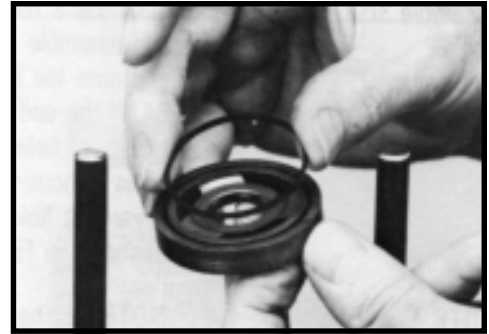

Figure 59
19. Assemble a **new** seal ring (3) flat side up, into commutator (5) and assemble commutator over the end of drive link (10) onto manifold (7) with seal ring side up. SEE FIGURE 59, 60.